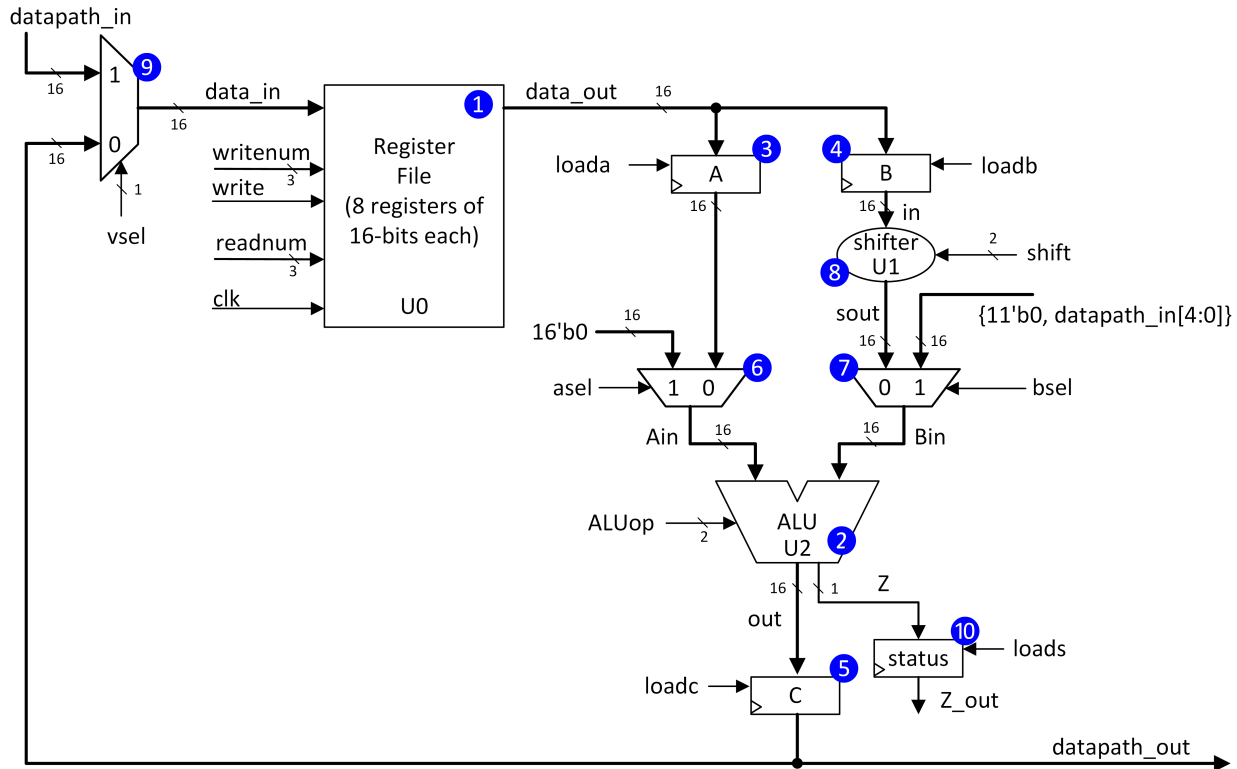
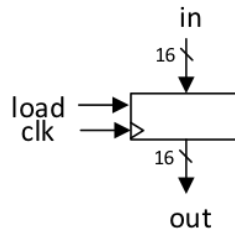

Figure 1: “Simple RISC Machine” Datapath
Figure 3: Register with Load Enable Symbol (Note: this symbol is used in both Figure 1 and 4)
To execute the instructions above along with some others described later, in Lab 5, you implement the computer *datapath* shown in Figure 1. This section explains the different elements in Figure 1. While reading this section try to focus on understanding what each individual block does. In Section 2 we will see an example showing how the blocks work together.
The Simple RISC Machine employs the hardware structure known as a *register file* ①, shown in Figure 1. The register file is a small read-write memory containing eight locations each storing 16-bits. The number in the register name, e.g., “5” in R5, is used as the address to select one of the registers to read or write. To specify one of the eight locations requires only $\log_2(8) = 3$ -bits (even though each location can hold 16-bits) for the address.
value of out is updated to the value on in on the rising edge of the clock. In Figure 1 a 16-bit register with load enable is represented using the symbol shown in Figure 3.
7. Now that all three main datapath modules are trusted to work, instantiate them in your datapath and add the remaining building blocks. Instantiate each of the three units (Register file ①, ALU ② and Shifter ⑧) inside `datapath.sv`. Note that the autograder will assume your register file has the instance label `REGFILE` (in all caps) and that the input and outputs are consistent with the way they are referenced in `lab5_top.sv` and `lab5_autograder_check.sv` provided in the starter repo. Note the autograder and `lab5_top.sv` require that `asel`, `bsel` and `vsel` are binary select inputs. Next, add in the remaining logic blocks ③④⑤⑥⑦⑨⑩ to your datapath module using synthesizable Verilog that conforms to the style guidelines. Use no fewer than one always block or assign statement per hardware block in Figure 1. Register A, B, and C will each require an instantiated flip-flop module and an assign statement for the enable input in order to conform to the style guidelines.